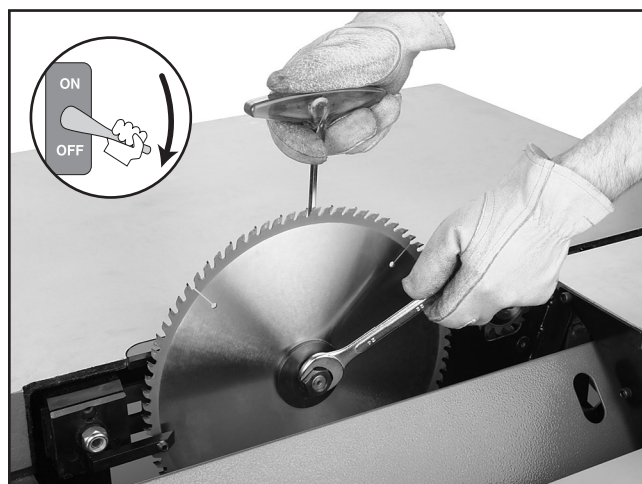

Figure 49. Replacing the main blade.
7. Re-install the arbor flange and the arbor nut, then tighten them against the blade as shown in **Figure 49**.